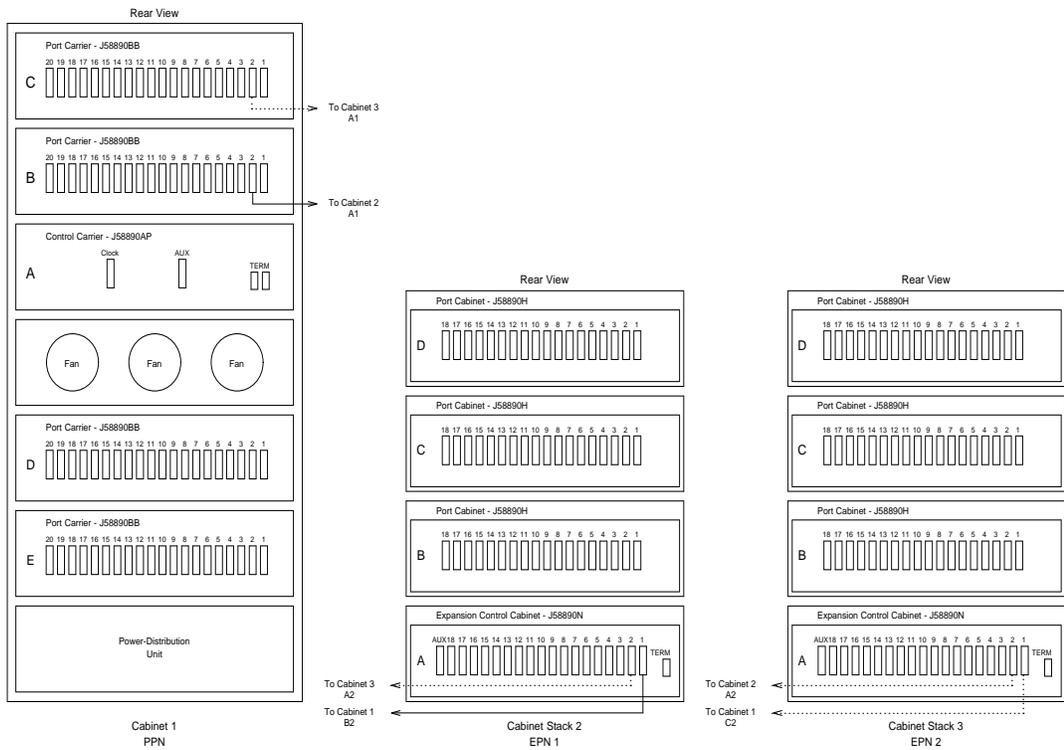
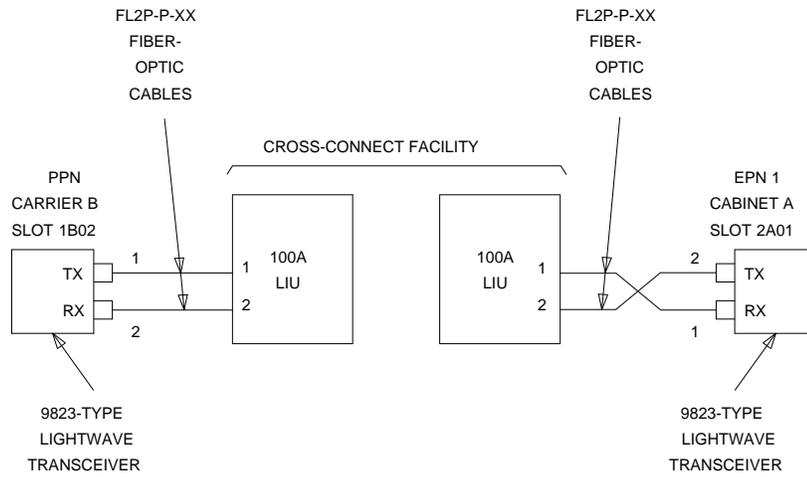
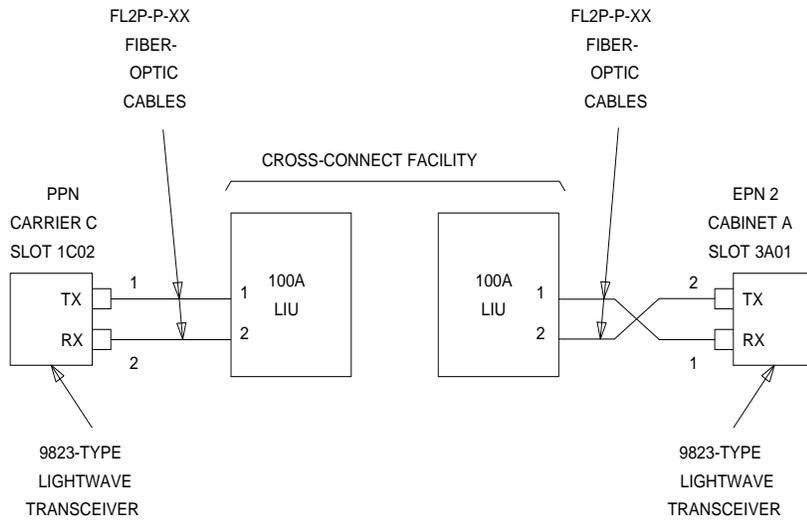
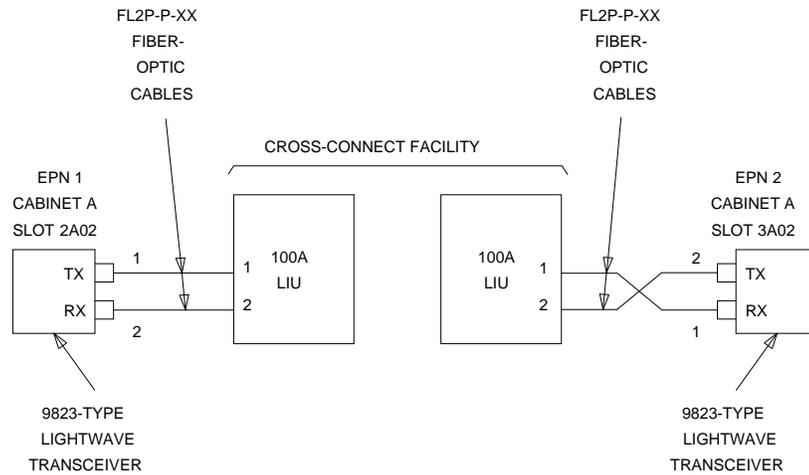

Figure 3-15. Standard-Reliability DEFINITY ECS R5r with Two or Three Port Networks
Figure 3-16. Fiber-Optic Connections PPN to EPN1
Figure 3-17. Fiber-Optic Connections PPN to EPN2
Figure 3-18. Fiber-Optic Connections EPN1 to EPN2
1. Behind port carrier B of the multicarrier PPN (Figure 3-15, Figure 3-16, Figure 3-17, and Figure 3-18):